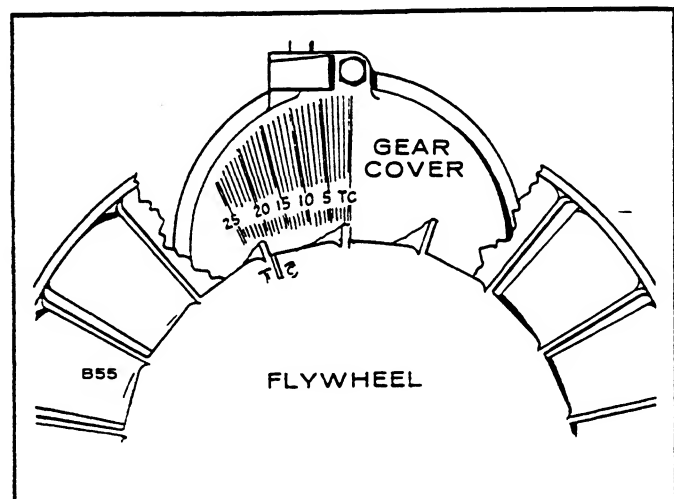

FIGURE 11. TIMING (PRESSURE COOLED)
4. Rotate the engine clockwise by hand until the mark on the flywheel and the TC mark on the gear cover align (Figure 11).
The standard pressure cooled engine timing mark is observed by looking through the flywheel fan to the timing marks on the gear cover, Figure 11. Engine timing is set at 22° BTC (before top center) and should be maintained for best engine performance. Always check timing after replacing ignition points or if noticing poor engine performance. Proceed as follows:
2. Rotate the flywheel clockwise until the TC mark on the flywheel approaches the timing indicator (Figure 11). Then slowly rotate the flywheel clockwise until the light goes out, indicating that the points have opened. This is the ignition point. If the timing is correct, ignition occurs at 3°ATC.